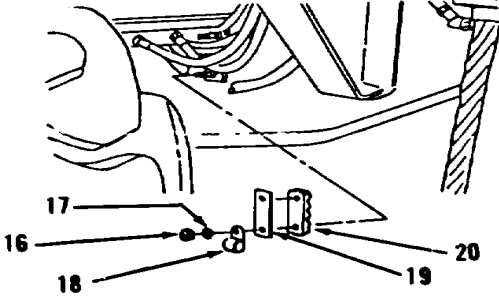

Figure 16-4.
4. Remove two nuts (16), washers (17), clip (18), plate (19) and clamp (20, Figure 16-4) from under right, rear of cab.